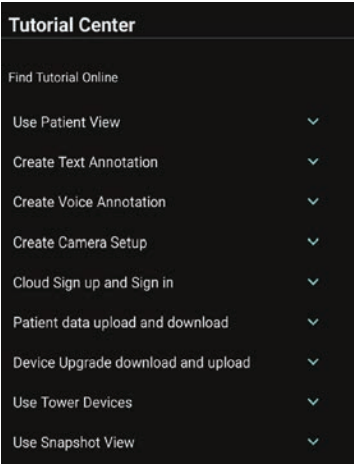

Figure 60. Tutorial Center Menu
- 3. Once the Tutorial Center screen displays, tap the Tutorial to display (Figure 60).